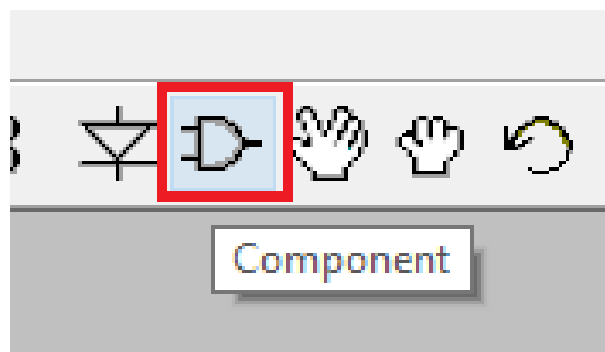
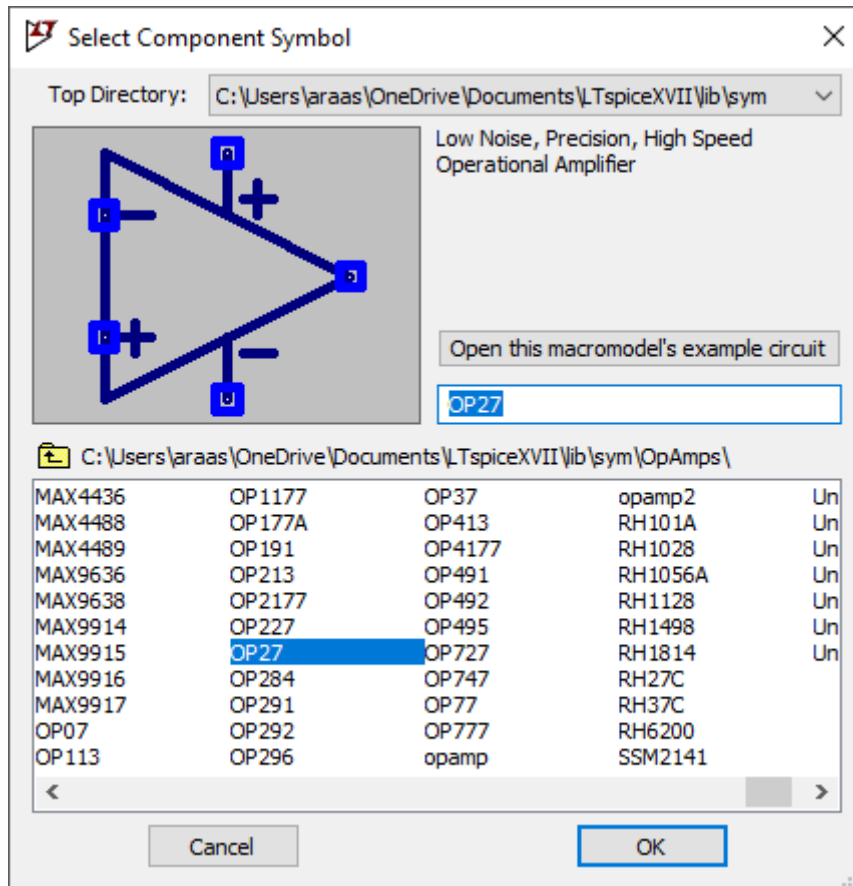

Fig. 5. Components library
Fig. 6. Inserting an element
4. Add the element in Fig. 5., let us begin by adding an operational amplifier. Click on the AND symbol  to open the library of components. Insert “OP27” as shown in Fig. 6.